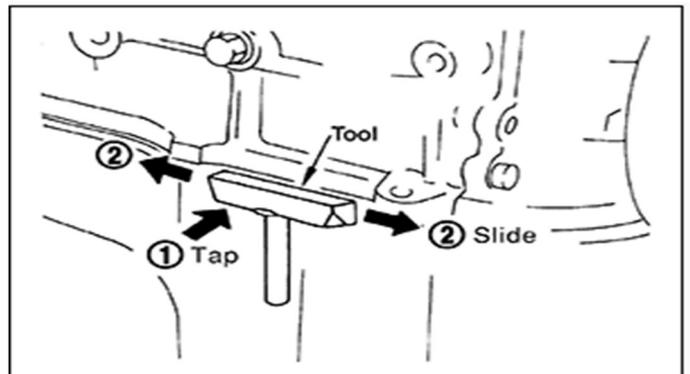

Figure 9
- Using (J-37228) separate upper and lower engine oil pan (Figure 9)